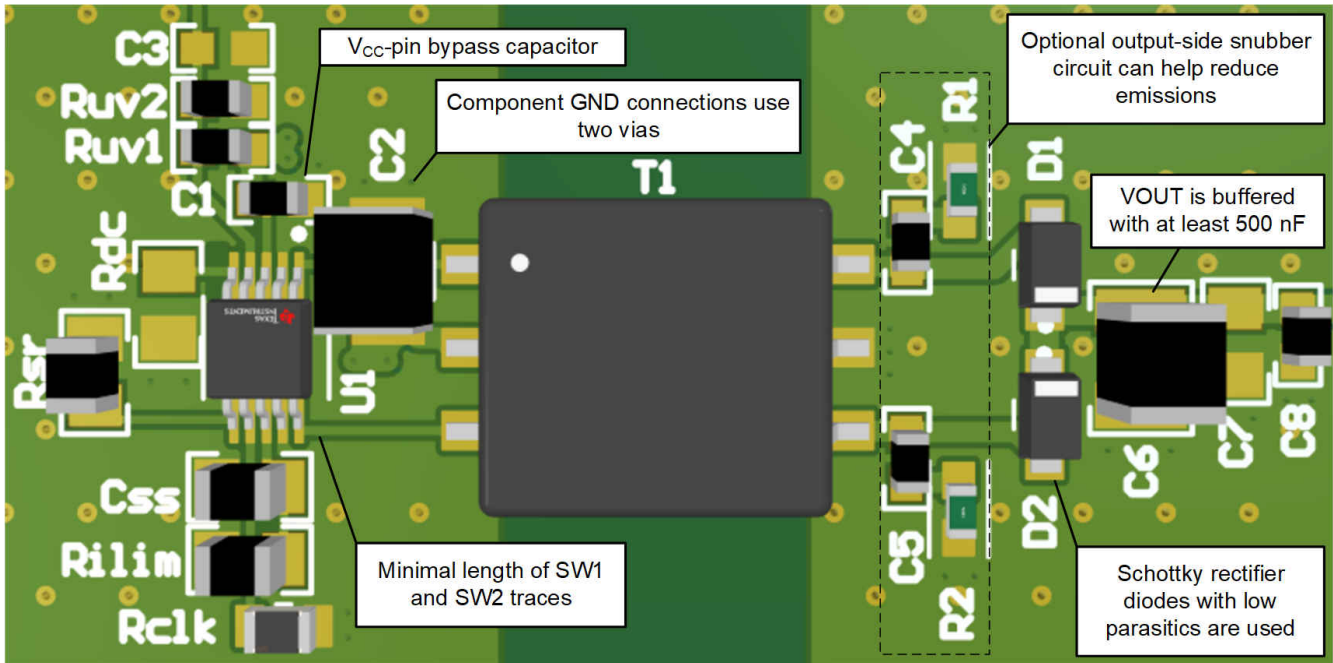

Figure 9-10. Layout Example of a 2-Layer Board
- The optimum placement of the V_{IN} capacitor is closest to the V_{IN} and GND pins at the board entrance to minimize the loop area formed by the bypass-capacitor connection, the V_{IN} terminal, and the GND pin. See Figure 9-10 for a PCB layout example.